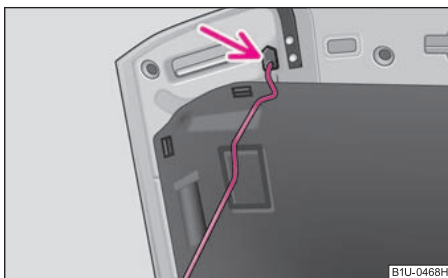

Fig. 16 Securing the bonnet with the bonnet support
- Take the bonnet support out of its holder and set it in the opening designed for it ⇒ fig. 16.